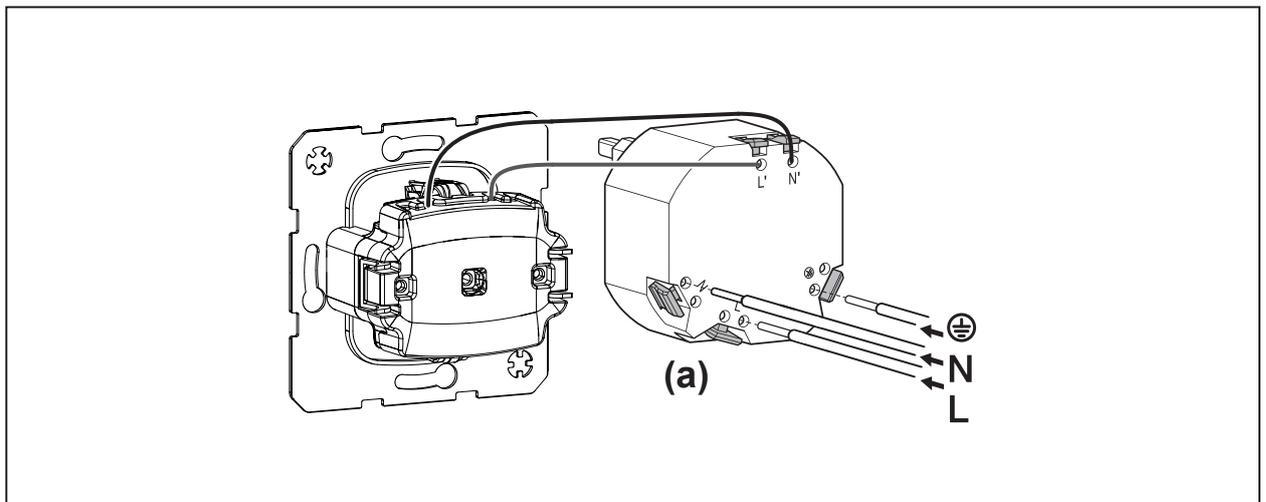

Figure 5
The residual-current protected outgoing feeders (see Figure 5) are used to connect socket-outlets or other loads.
- Press the release buttons ((a), Figure 5) for the corresponding plug-in terminal and pull out the terminal leads.